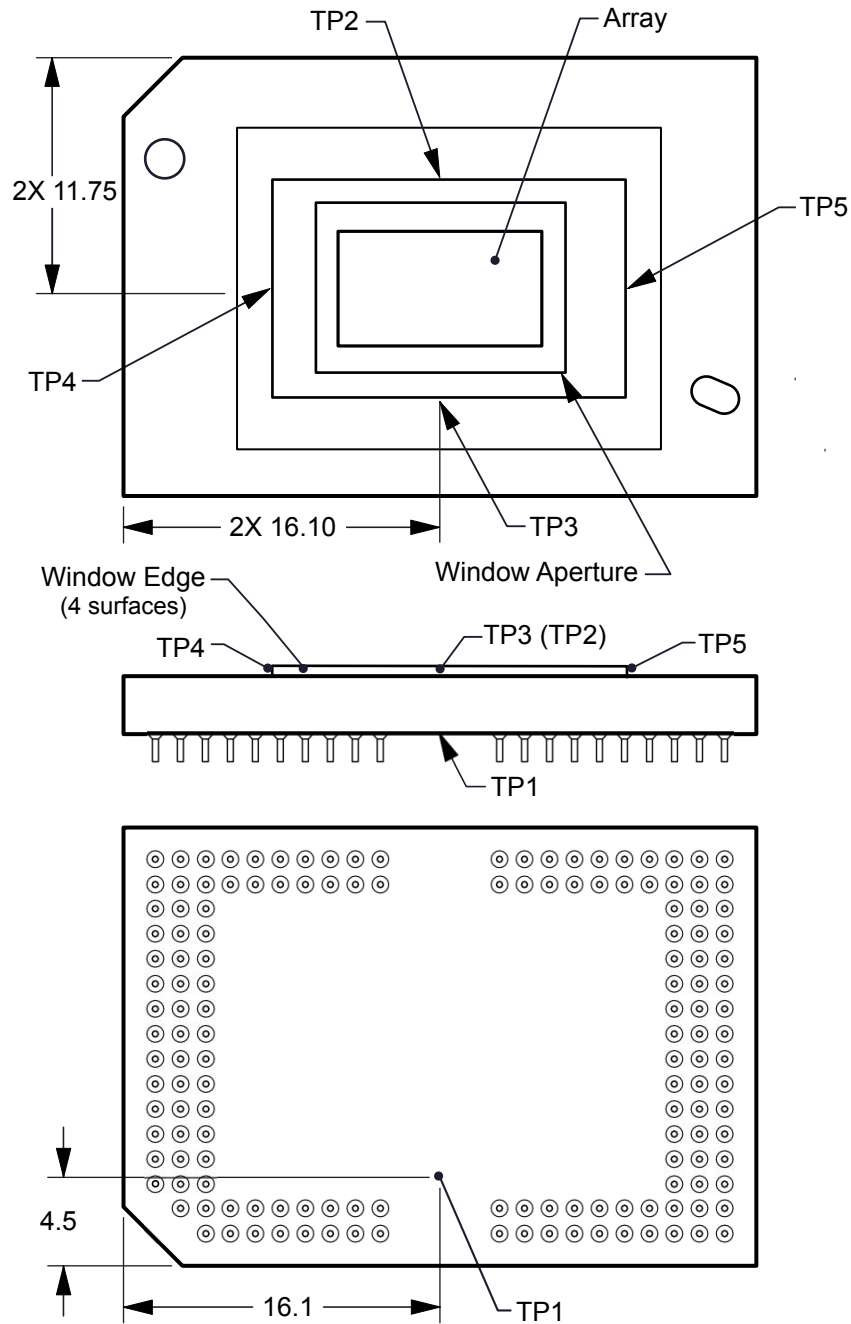

Figure 6-1. DMD Thermal Test Points
Micromirror array temperature cannot be measured directly, therefore it must be computed analytically from measurement points on the outside of the package, the package thermal resistance, the electrical power, and the illumination heat load. The following equations show the relationship between array temperature and the reference ceramic temperature, thermal test TP1 Figure 6-1 shown above:
- T_{CERAMIC} = Measured ceramic temperature (°C), TP1 Figure 6-1
- $R_{\text{ARRAY-TO-CERAMIC}}$ = Thermal resistance of package specified in Section 5.5 from array to ceramic TP1 Figure 6-1 (°C/W).
- Q_{ARRAY} = Total DMD Power (electrical + absorbed) on array (W).
- $Q_{\text{ELECTRICAL}}$ = Nominal electrical power (W)
- Q_{INCIDENT} = Incident illumination optical power (W)
- $Q_{\text{ILLUMINATION}}$ = (DMD average thermal absorptivity × Q_{INCIDENT}) (W)